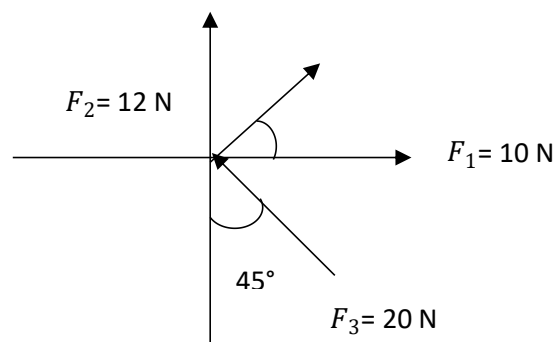

Figure 3 (a)
3. Calculate the magnitude and angle of the resultant force for **Figure 3 (a)**.